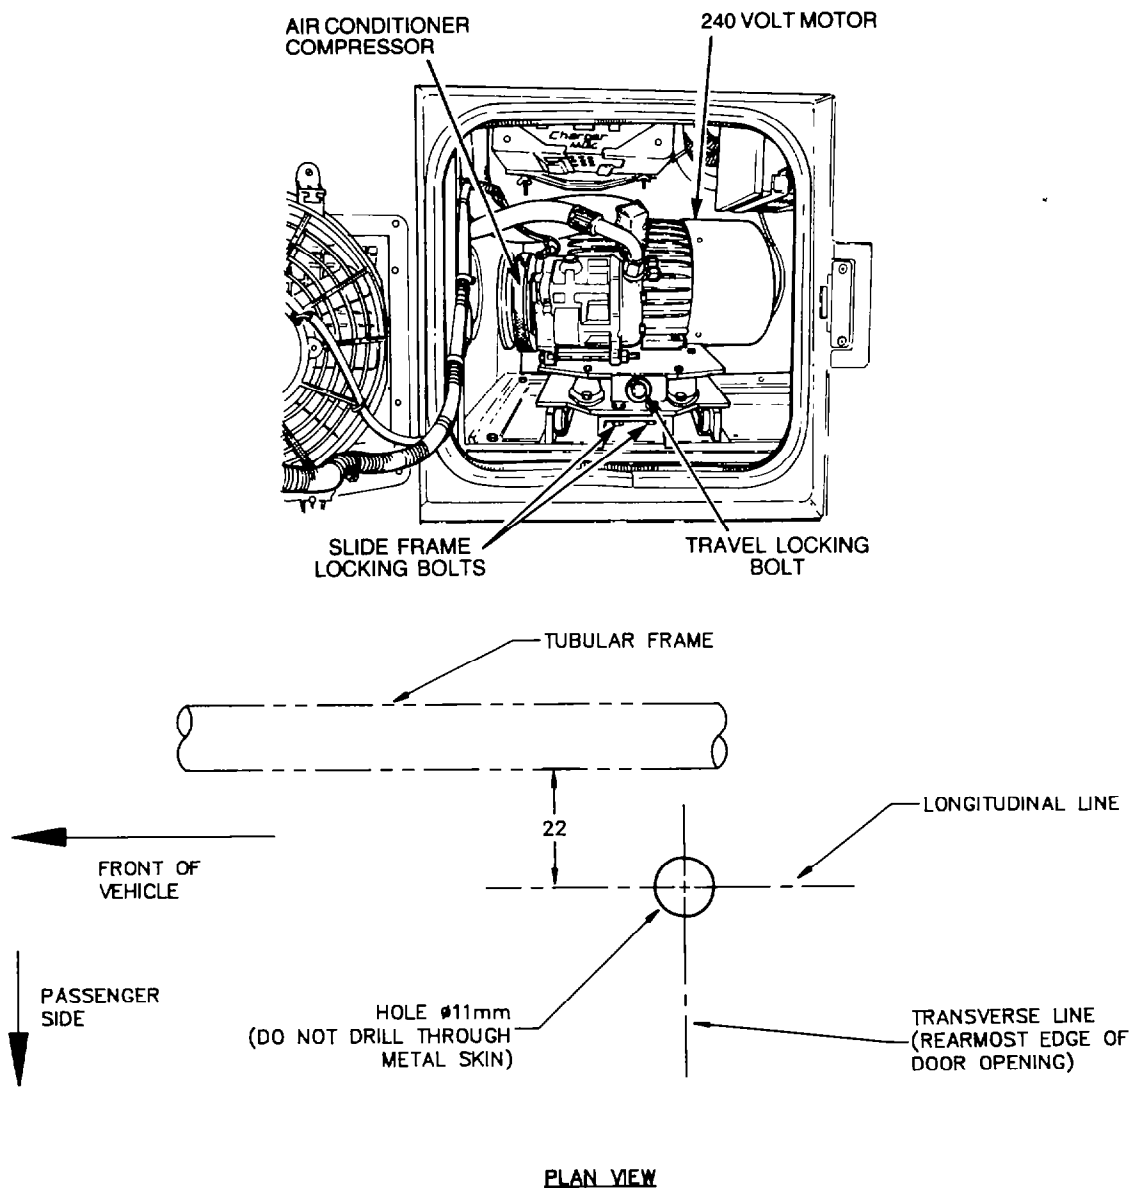

Figure 6 - Location of Travel Locking Bolt and Storage Hole
- a. Open the air-conditioner locker door and remove the existing travel locking bolt (see Figure 6).
c. Locate the position of the bolt storage hole (see Figure 6) as follows:
- (1) draw a transverse line from the rearmost edge of the door opening;
- (2) draw a longitudinal line parallel to, and 22 mm outboard from, the floor mounted tubular frame; and
- (3) drill an 11.0 mm diameter hole down through the plywood floor but not through the lower metal skin.